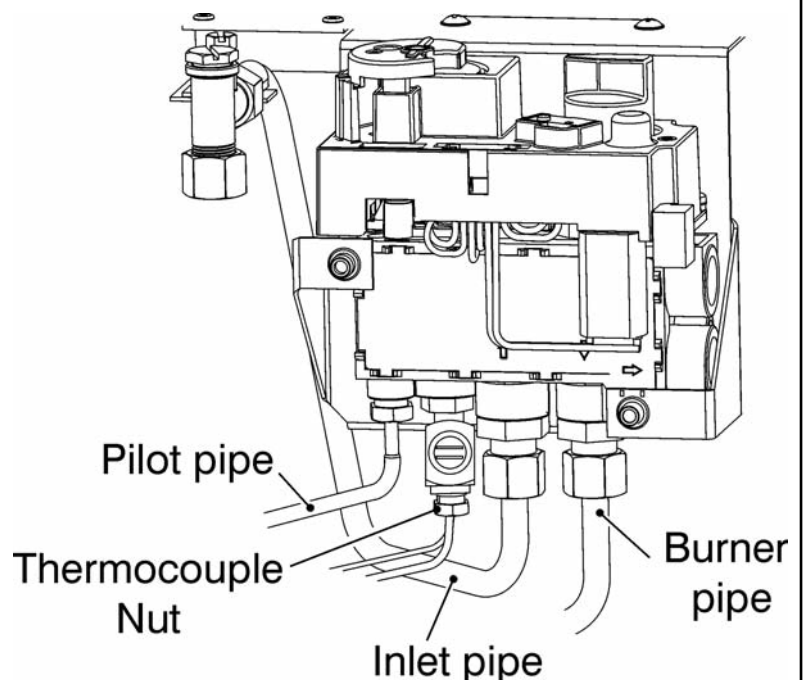

Figure 34. Gas valve (Viewed from underside)
4. Detach the thermocouple by unscrewing the thermocouple nut at the interrupter block (See figure 34).
(See figure 34).